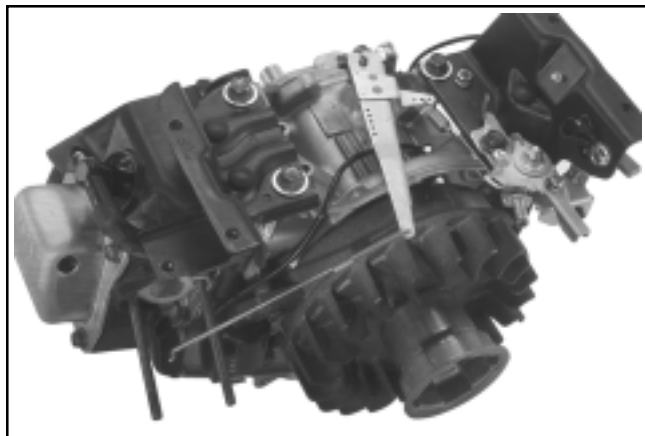

Figure 11-86. CS4, CS6. Governor Lever Details.
3. Connect the throttle link and the shorter end of dampening spring, from the top down, into the hole(s) in long end of governor lever as shown in Figures 11-86, 11-87, and 11-88.